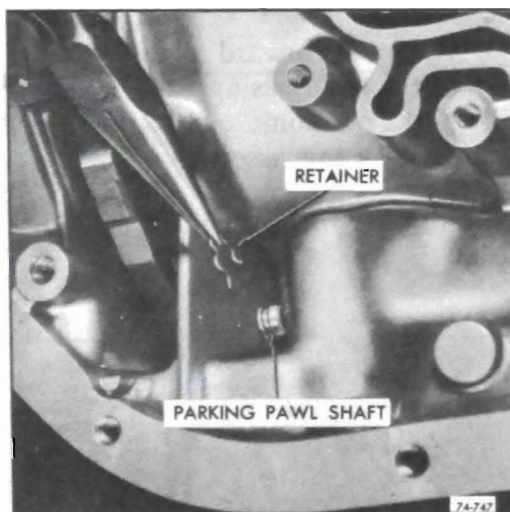

Figure 76-533
h. Remove parking pawl shaft retainer. See Figure 76-533.